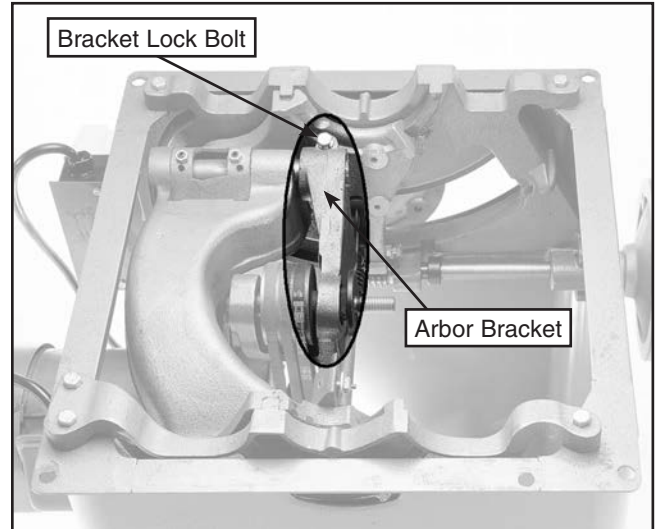

Figure 28. Adjusting arbor bracket.
3. Loosen the bracket lock bolt shown in **Figure 28**.